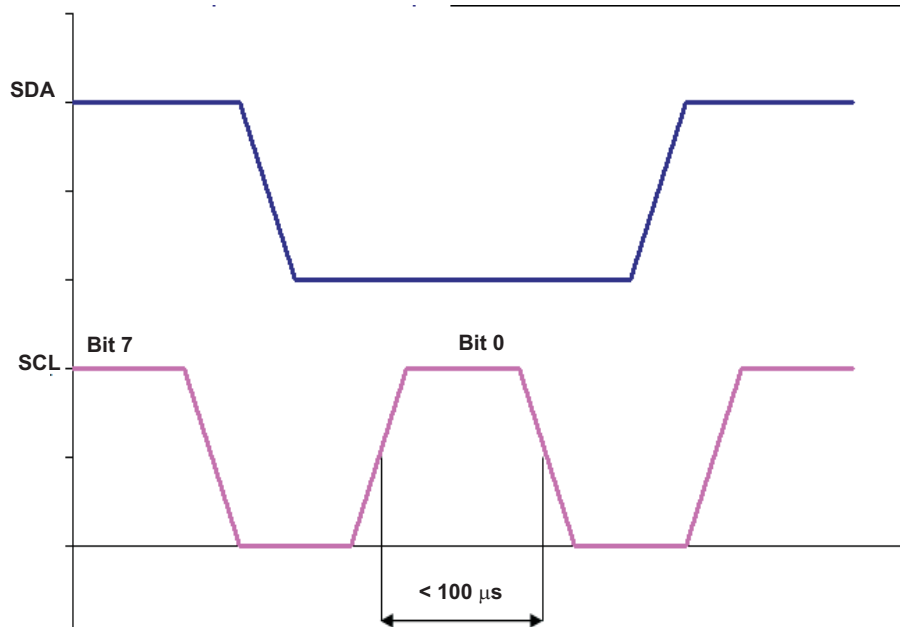

Figure 6. Eighth Bit of Write Command Requirements
- Eighth data bit of write command (Figure 6): SCL must fall within 100 μ s of SCL rising.